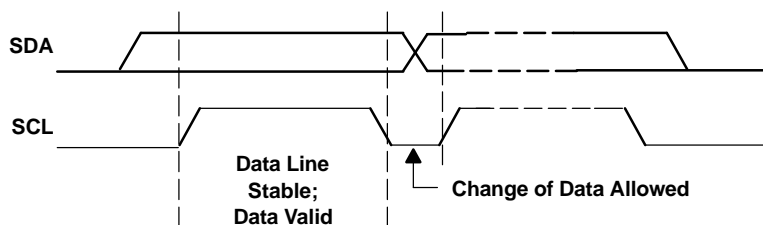
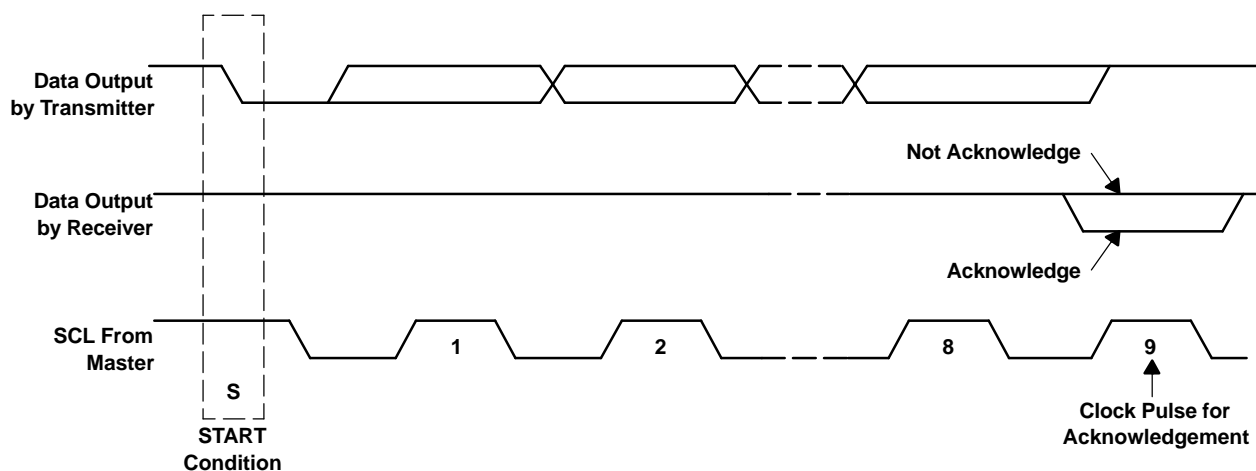

Figure 32. Bit Transfer on the I²C Bus
Figure 33. Acknowledge on the I²C Bus
- The master then generates the SCL pulses, and transmits the 7-bit address and the *read/write direction bit* R/\overline{W} on the SDA line. During all transmissions, the master ensures that data is *valid*. A *valid data condition* requires the SDA line to be stable during the entire high period of the clock pulse (see Figure 32). All devices recognize the address sent by the master and compare it to their internal fixed addresses. Only the slave device with a matching address generates an *acknowledge* (see Figure 33) by pulling the SDA line low during the entire high period of the ninth SCL cycle. Upon detecting this acknowledge, the master knows that communication link with a slave has been established.